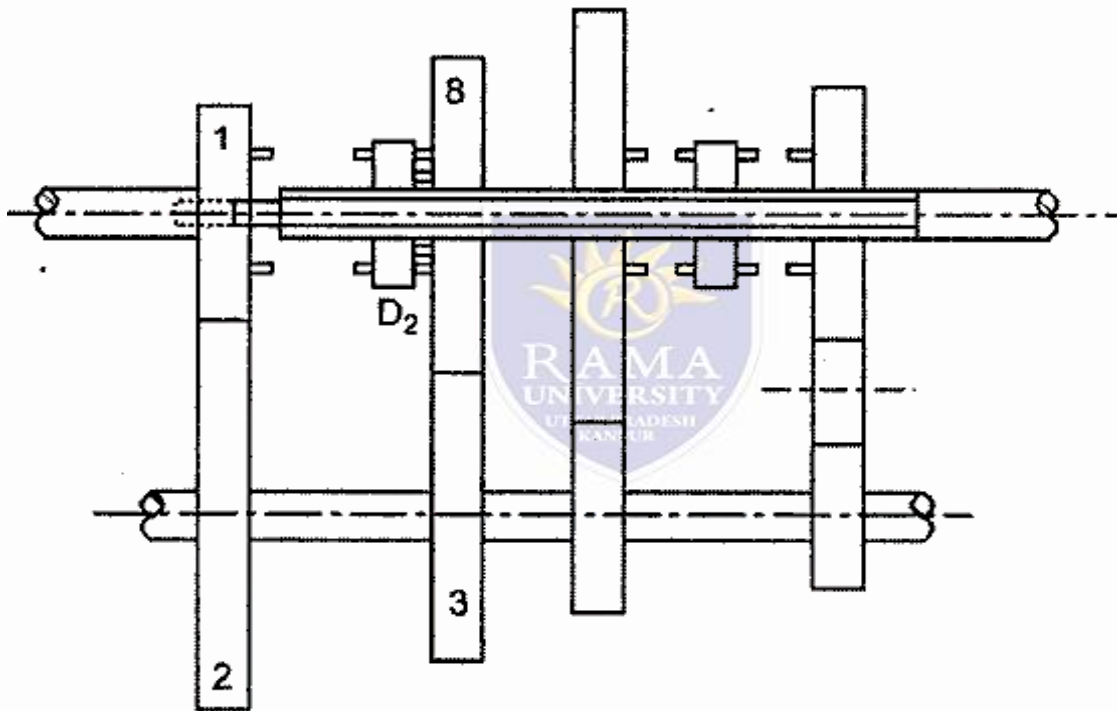

Figure 3.23 Second gear of constant mesh gearbox
- In this, the dog clutch (0,) is disengaged and the dog clutch (02) is shifted to right to lock with the gear (8) as shown in Figure 3.23. Therefore, the power is transmitted from clutch shaft through (1) => (2) => (3) => (8) to dog clutch (02) and then to the main shaft. So, the main shaft rotates with the second gear speed.